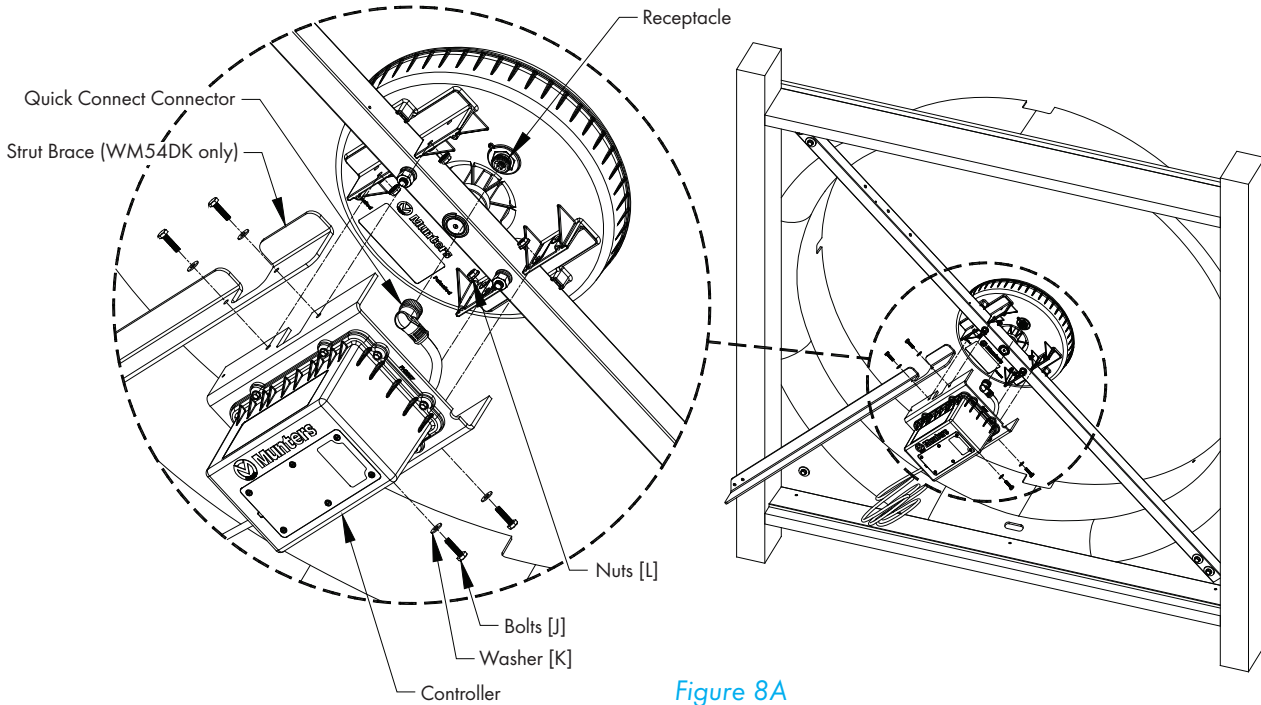

Figure 8A
Find Strut Brace (WM54DK only) in crate and remove the Controller from foam packaging. Plug the Quick Connect Connector into Motor and position Controller and Strut Brace (WM54DK only) over Strut, with bottom of box toward bottom of the fan. Secure Controller and Strut Brace to Motor using (4) Bolts [J], Washers [K] and Nuts [L]. See Figure 8A. WM36DK does not use the Strut Brace, attach Controller to Strut as stated.